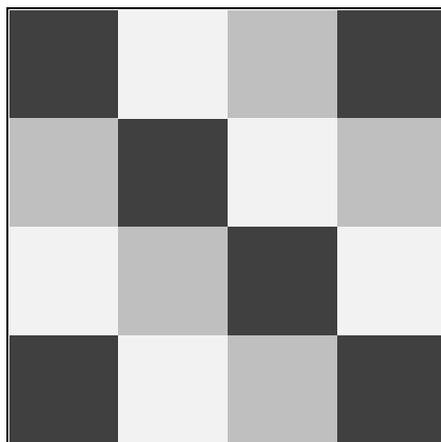

Figure 5-2. Display Test Pattern
2. Press **F3** CAL. The display will show a dark test pattern, see Figure 5-2